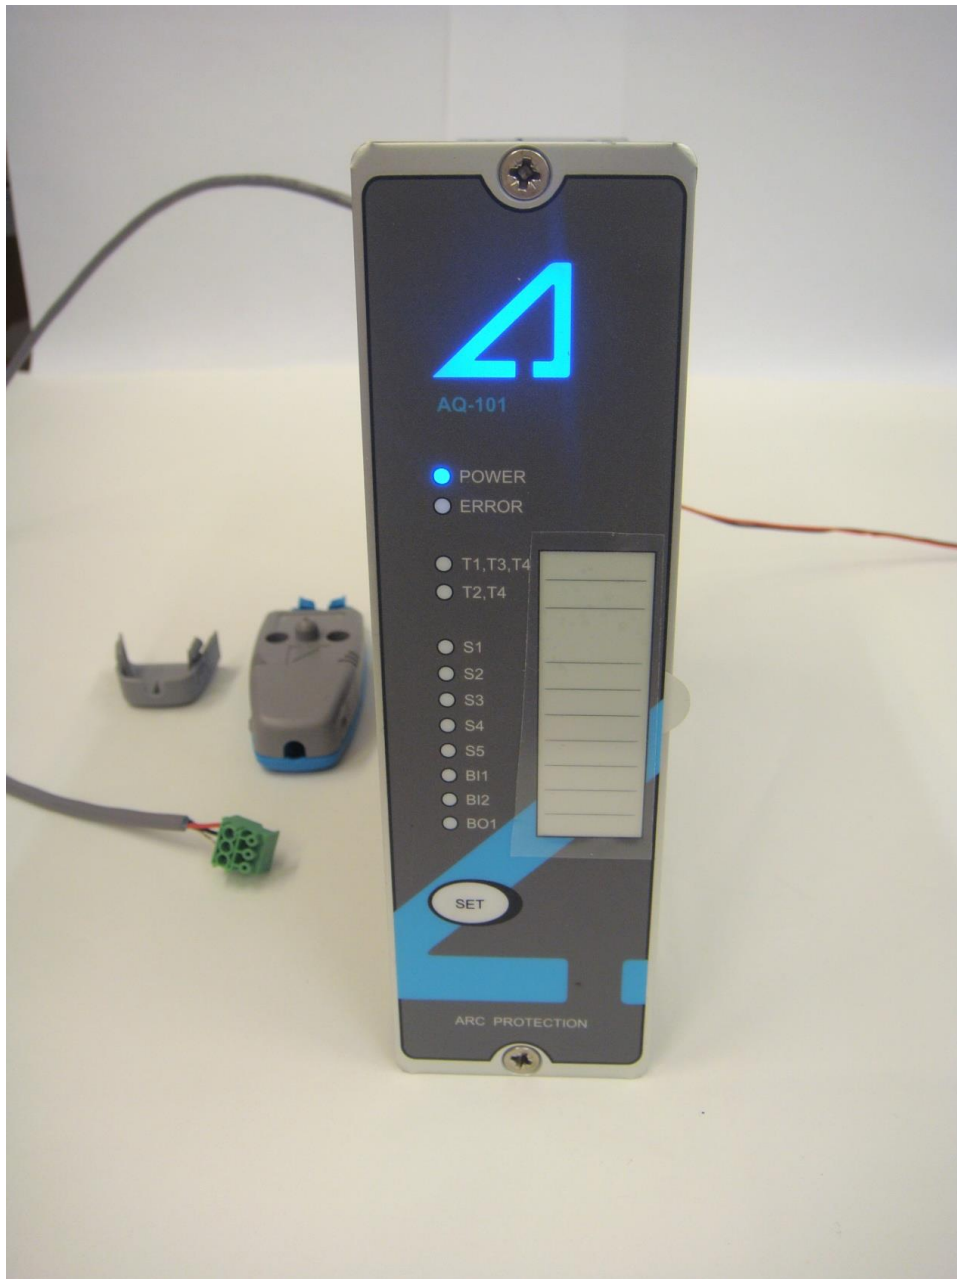

Figure 4-9: AQ01 sensor connection step 4.
4) Check the front panel of the unit, only POWER LED turns on at this moment. See Figure 4-9.